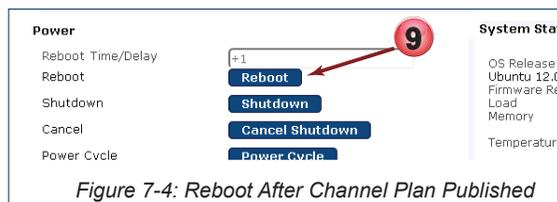

Figure 7-4: Reboot After Channel Plan Published
10. You will be taken to the **System** page for a reboot. In the Power section, click **Reboot**, Figure 7-4. After reboot, the new RF Channel Plan will be in effect.